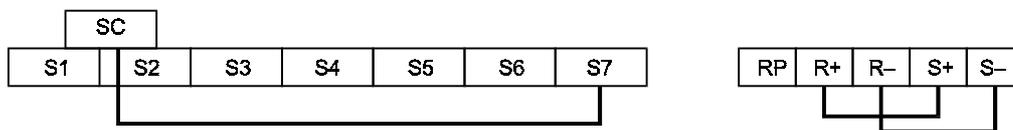

Fig 6.63 Communication Terminals Wiring for Self-Diagnosis
3. Perform the wiring according to Fig 6.63.